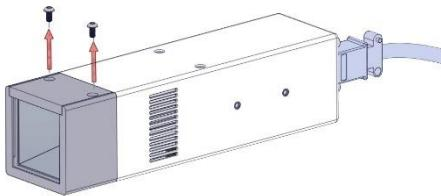

Figure 1
2. Lay the emitter on its side with the cover facing upwards. Using a 5/64" hex key, loosen and fully remove the two screws (Figure 1).